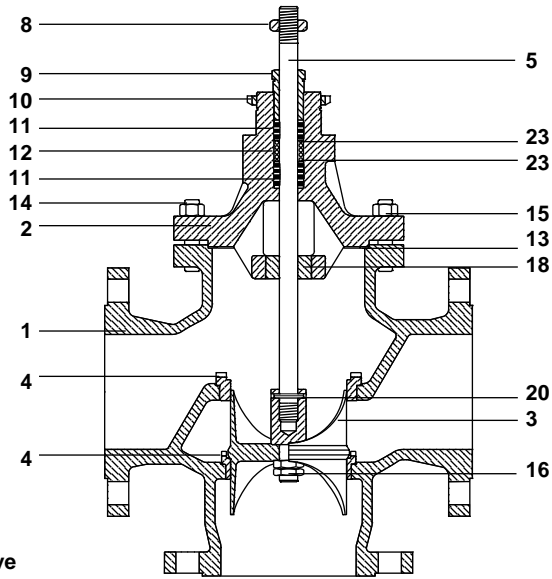

Fig. 1 Mixing valve
4.2.1 Procedure for renewing the PTFE chevron gland seals and graphite ring gland seals (Refer to Figures 1, 2 and 4):
- c) Remove lock-nut (8).